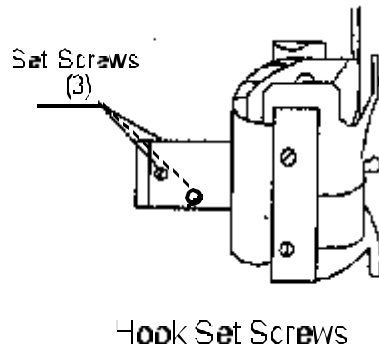

Figure 7
37. **Using** a needle screwdriver, **loosen** two set screws **furthest** from hook point leaving the set screw closest to hook point tight. (If Hook Assembly was removed as instructed in Section B, two set screws are loose already) See *Figure 7*.